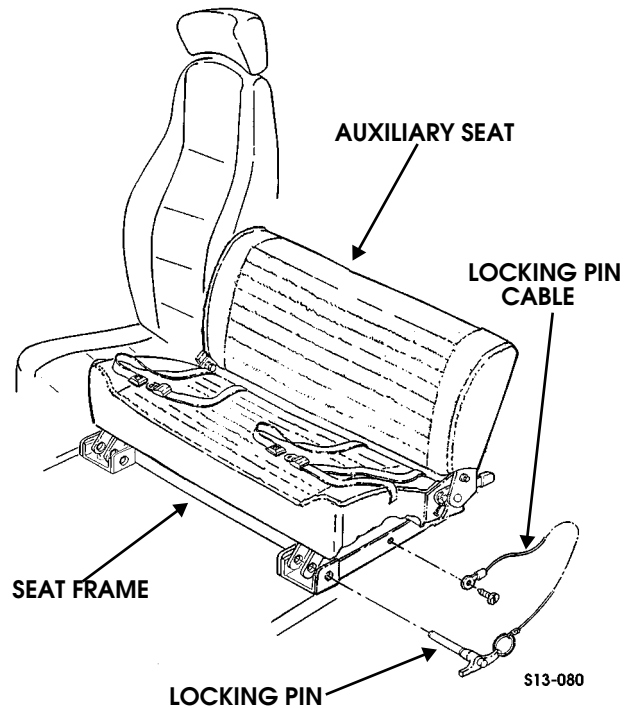

Figure 13-83: Auxiliary Seat Locking Pin
1. Remove two screws and locking pin cables from auxiliary seat frame (Figure 13-83).
1. Install and fasten two locking pins on auxiliary seat frame and auxiliary seat (Figure 13-83).